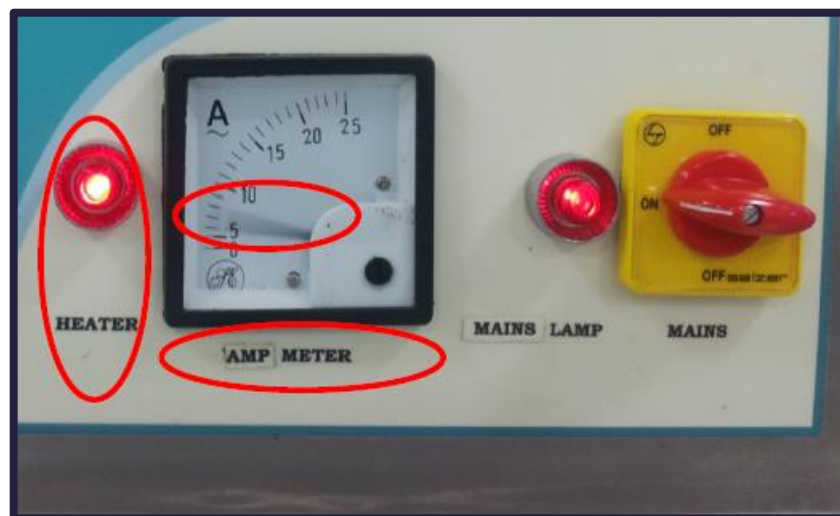

Figure. 11
9. Based on the recipe entered, the “SV” changes during the operation based on “ramp up/down’ rate. “PV” tries to catch with “SV” by flowing current through heater coil and turning it off, once the instantaneous PV reached the instantaneous SV. Observe this change, with AMP METER and HEATER Lamp on furnace front panel (Figure. 11).